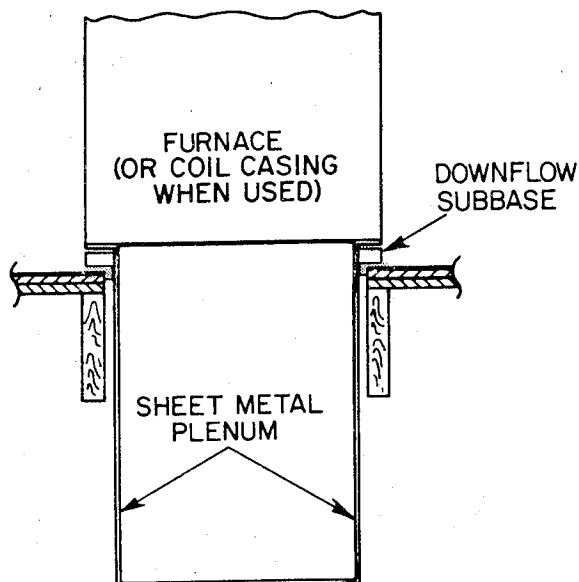

Fig. 4—Furnace, Plenum, and Subbase Installed on a Combustible Floor
2. When completed, downflow subbase, plenum, and furnace (or coil casing when used) should be installed as shown in Fig. 4.